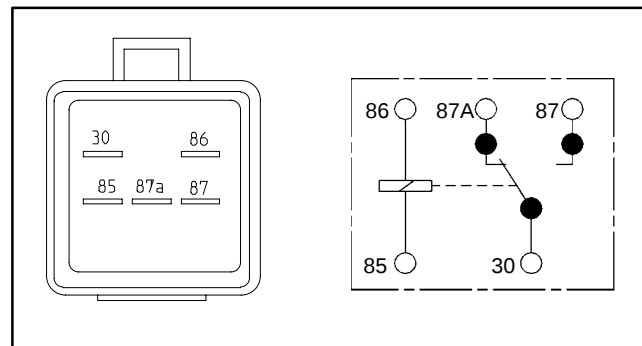

Figure 37
2. Using a multimeter (ohms setting), measure coil resistance between terminals 85 and 86 (Fig. 37). Resistance should be between 70 and 90 ohms.